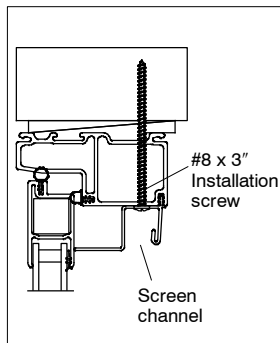

Figure 1
2. Install unit following supplied installation instructions. When unit is properly installed, apply #8 x 3" Phillips pan head screws through screen channel into framing at drilled locations. See figure 1.